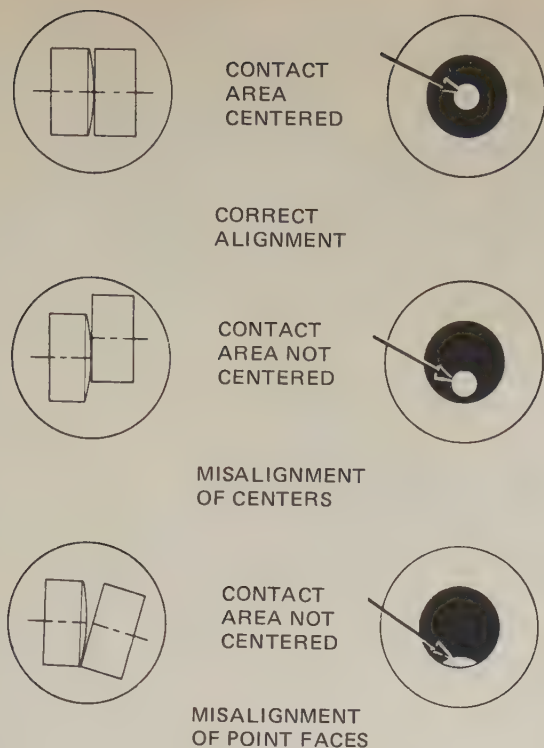

FIG. 26-17 Correct and incorrect alignment of breaker points.
**Adjusting Points** To adjust the breaker points, first make sure that they are properly aligned. Figure 26-17 shows the right and wrong ways to align points. Usually, the points are properly aligned and no adjustment is required. However, if new points are misaligned, adjust them by slightly bending the bracket supporting the stationary point.